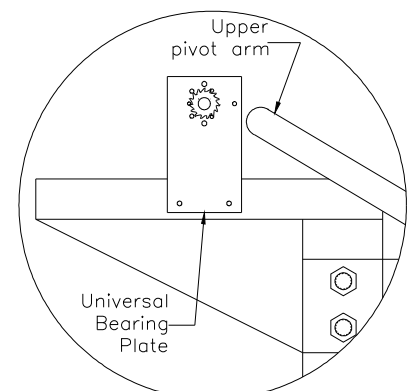

FIGURE 4
- 2) Slide one of the upper pivot arms into a lower arm. Adjust the arm length until the corner rests on the desired landing point at the back of the trailer and at the head assembly. If the upper arm is too long, cut both upper arms to allow at least 2 feet of upper pivot arm sticking into the lower pivot arm. (See figure 4)